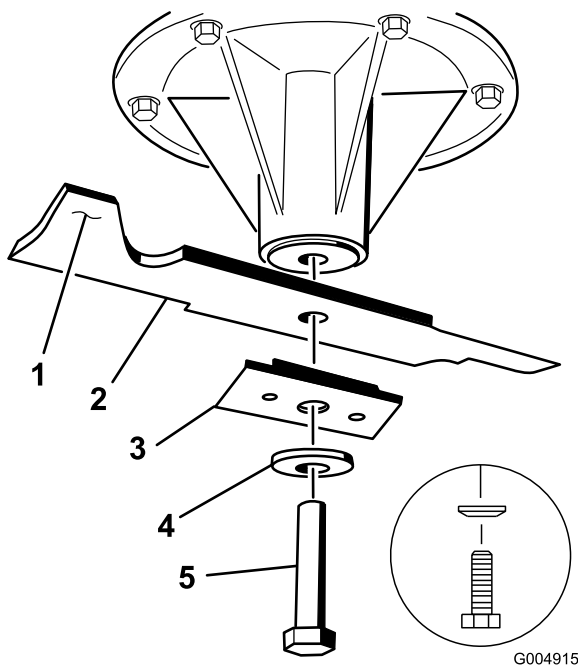

Figure 49
2. Remove the blade bolt, curved washer, blade stiffener, and blade from the spindle shaft (Figure 49).
- Install the blade onto the spindle shaft (Figure 49).
Important: The sail part of the blade must be pointing upward, toward the inside of the mower to ensure proper cutting (Figure 49).
- Install the blade, stiffener, curved washer, and blade bolt (Figure 49).